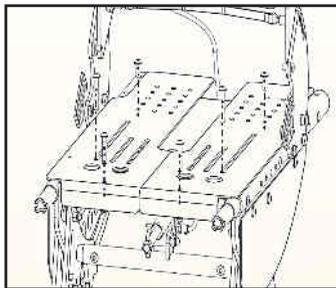

Fig. 38
4. On the top of the seat pan, remove the six adjustment bolts located on top of the seat pan. Fig. 38